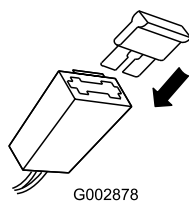

Figure 9
2. Install the fuse in the fuse holder (Figure 9).